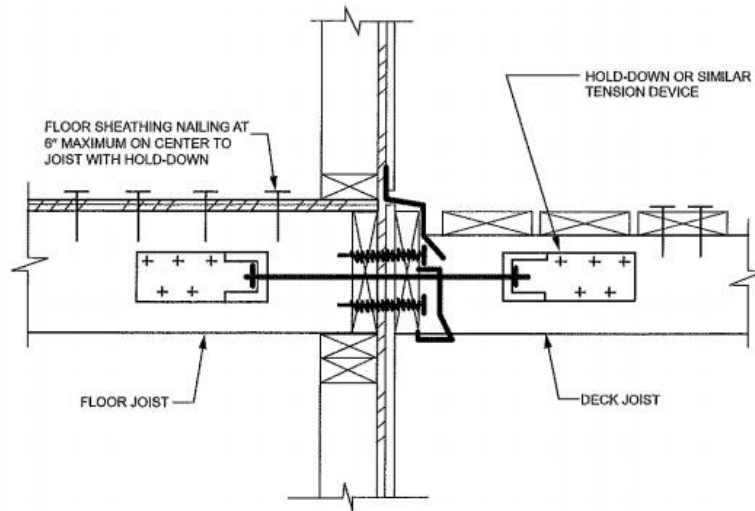

FIGURE 1
Member sizes were designed assuming beams were braced continuously to prevent lateral compression buckling. Where the lateral load connection is provided as shown in Figure 1 below, hold-down tension devices shall be installed in not less than two locations per deck, within 24" of each end of the deck. Where the lateral load connection is provided as shown in Figure 2, the hold-down tension devices shall be installed in not less than four locations per deck.
The first method of construction to be considered is to have the deck boards running parallel to the house with the floor joists running perpendicular. This allows a girder loaded on one side with joists spanning 12'. Using **Table 1** above and a joist spacing of 16" on center, 2x10 joists will be required. The house wall ledger board shall be 2x10 minimum. The house wall ledger board is anchored to the house using 1/2" diameter lag bolts with washers spaced 15" o.c, staggered spaced. Copper flashing is used between the house and the ledger board and Z-flashing above the ledger board. **Table 4** requires the deck beam to be 2-2x12 minimum having a maximum span of 8'-7". When 2-member deck beams are used, both members must be supported by the posts at each end and at splice points. From **Table 2**, a deck height of 10' requires the use of 6" x 6" wood. Finally, using **Table 3**, a 2-2x12 deck beam requires a footing size of 24" x 24" square or 27" diameter round dug a minimum of 12" deep and poured a minimum of 6" thick concrete. Install 2 #4 rebar in the footing each direction for reinforcement. Lateral load tension devices will be installed per Figure 1 or Figure 2 above. **Note: The house rim / band board must be structurally attached to the house frame.**
**EXAMPLE 1B:** A second method of construction is to have the deck boards running perpendicular to the house with floor joists running parallel. This method uses a deck beam loaded on both sides to allow joist spans of 7'-6". Using **Table 1** and a joist spacing of 24" on center, 2x6 joists can be used. The house wall ledger board in this case is not required since ledger boards are not allowed to support concentrated loads from beams or girders. Additional posts will be required at the house to support the deck beams. The deck beams will now run perpendicular to the house and the deck is free-standing. **Table 4** shows us that 2-2x8 deck beams will span 7'-7" between posts. This means that for a 12' deck beam a post will be required mid-span of the beam and another at each end of the beam. Again, **Table 2** requires 6" x 6" posts for a deck height of 10' and **Table 3** shows footings of 17" x 17" square or 19" diameter round when using 2-2x8 beams or girders. Lateral load tension devices will be installed per Figure 1 or Figure 2 above.